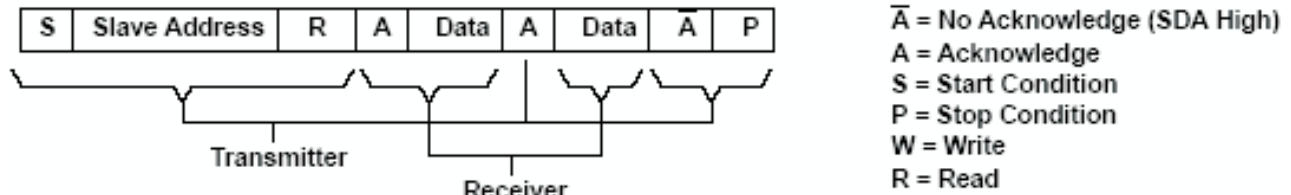
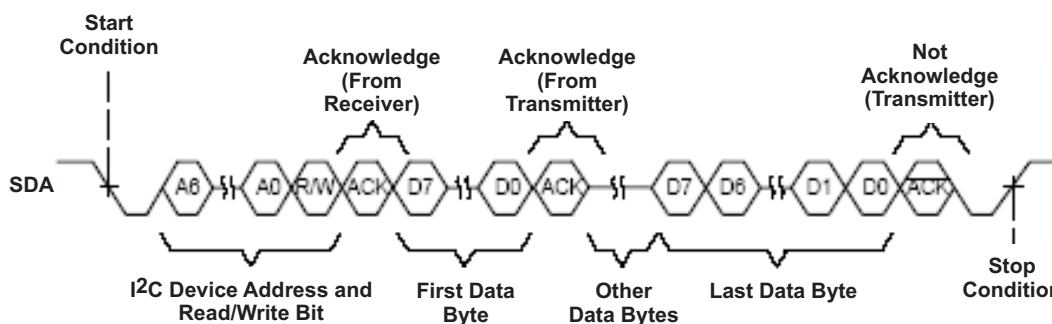

Figure 35. I2C Read Cycle
Figure 36. Multiple Byte Read Transfer
address. Following this initial acknowledge by the slave, the master device becomes a receiver and acknowledges data bytes sent by the slave. When the master has received all of the requested data bytes from the slave, the not acknowledge (A) condition is initiated by the master by keeping the SDA signal high just before it asserts the stop (P) condition. This sequence terminates a read cycle as shown in Figure 35 and Figure 36. See **Example – Reading from the SN75DP122A** section for more information.
The SN75DP122A operates using a multiple byte transfer protocol similar to Figure 36. The internal memory of the SN75DP122A contains the phrase *DP-HDMI ADAPTOR<EOT>* converted to ASCII characters. The internal memory address registers and the value of each can be found in Table 3.